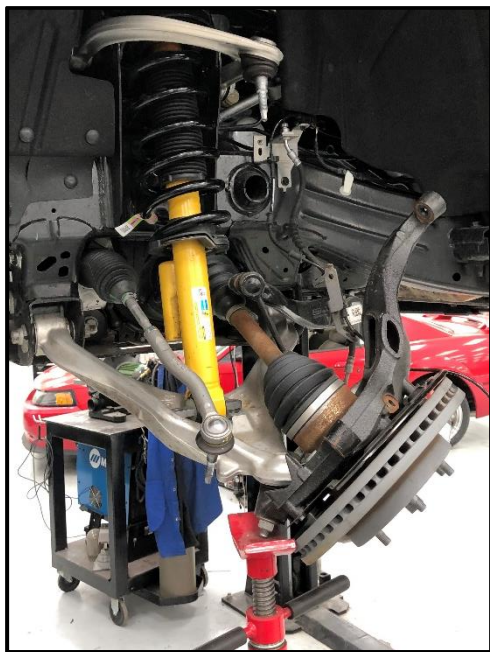

Figure 7
- Separate the ball joint from the knuckle, but do not let the knuckle pull out so far that the shaft pulls out of the differential **(Figure 7).**